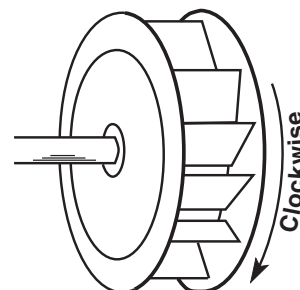

Figure 10
have clockwise wheel rotation when viewed from top of fan). Rotation should be clockwise as shown in Figure 10 and correspond to the rotation decal on the unit.
3. Start the fan and shut it off immediately to check rotation of the wheel with directional arrow in the motor compartment, see Figure 10.